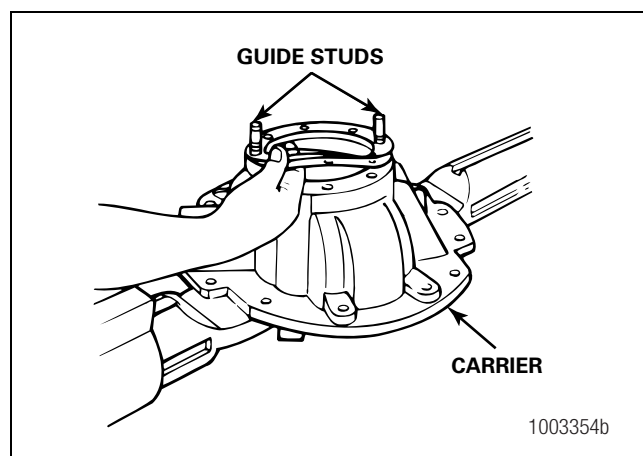

Figure 5.26
1. Select the correct shim pack and install it between the bearing cage and carrier. Figure 5.26.
3. Align the oil slots in the shims with the oil slots in the bearing cage and carrier. Use guide studs to help align the shims. Figure 5.26.